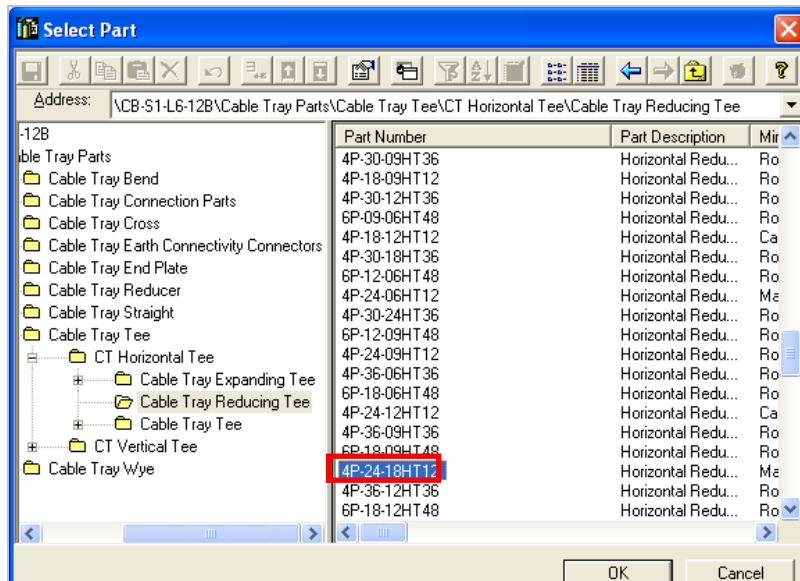

Figure 24: Select Part Dialog Box
38. The **Select Part** dialog box appears. Expand the node **CB-S1-L6-12B\ Cable Tray Parts\ Cable Tray Tee\ CT Horizontal Tee\ Cable Tray Reducing Tee** in the left pane of the **Select Part** dialog box. Select the **Part Number 4P-24-18HT12** in the right pane, as shown in Figure 24.